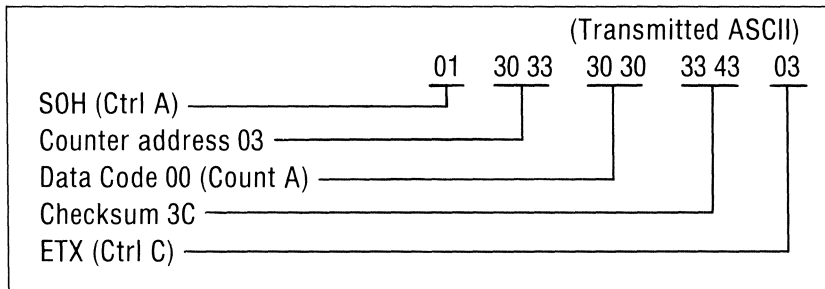
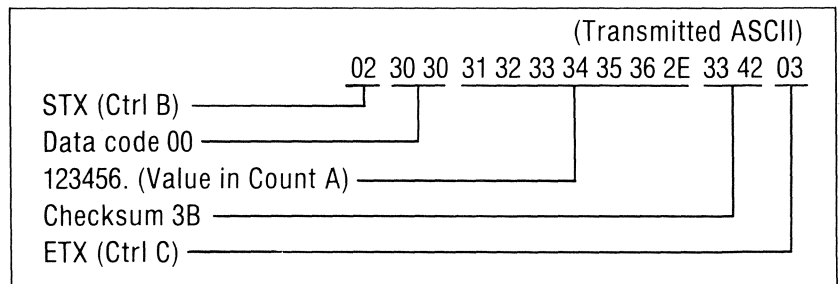

Figure 7-3. Example Request Message
Figure 7-4. Example Response Message
3. Using a terminal or terminal emulation program, transmit the request message in Section 7E, Figure 7-3 to the 7910. Refer to the Error Codes in Section 7G to help establish communication. Note that if the 7910 detects a parity error, a response message will not be sent.
4. The correct response message from the 7910 will be similar to the message shown in Figure 7-4. At this point, all of the data codes should be evaluated for their response format. Note that this data is in computer format and does not include spaces, line feeds or carriage returns. It is the responsibility of the host system programmer to sort or rearrange the received data to suit the application.
Checksum calculation for Figure 7-3 example:
The two-digit data codes that are transmitted within the request and response messages are used to identify the information which is being transferred. They are shown as being the fourth and fifth characters transmitted in Figure 7-3. They are also shown in Figure 7-4 as being the second and third character transmitted.